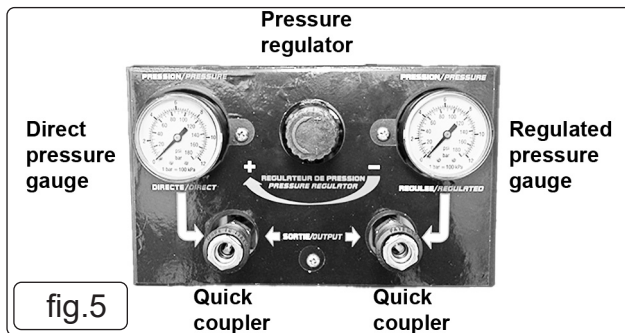

fig.5
- 5.7.2. Check that the ON/OFF button is in the "OFF" position and the regulator dial (fig 5) is closed (Zero '0' bar).
- 5.7.4. Leave the compressor running with no air line or tools connected, and regulated pressure gauge (fig 5) set to maximum pressure (fully clockwise). Make sure that the pressure in the tank rises and that the compressor stops automatically when the maximum is reached. This value is written on the specification plate and shown on the direct pressure gauge (fig 5). This may take in excess of 5 minutes. The compressor will now operate automatically.
- 5.7.6. The output pressure is regulated by the pressure regulator (fig 5). Turn the pressure regulator dial clockwise to increase pressure and counter-clockwise to reduce it.
**B:** The direct pressure gauge (fig 5) indicates the pressure inside the main tank. The regulated pressure gauge (fig 5) indicates the pressure supplied to the air equipment.